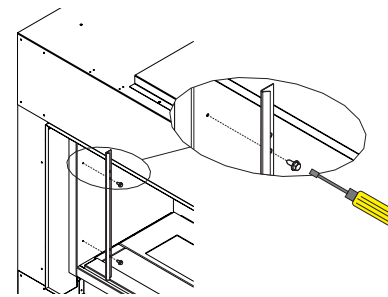

Figure 1
9. Use a 5/16" Nut Driver to install the two Side Retainer Brackets at the front left and right side openings of the firebox with (2) # 10 x 1/2" screws each. Use the screws removed in step 5 to attach the brackets. These brackets must be installed so the angle break is facing rearward. **See Figures 1 and 2.**